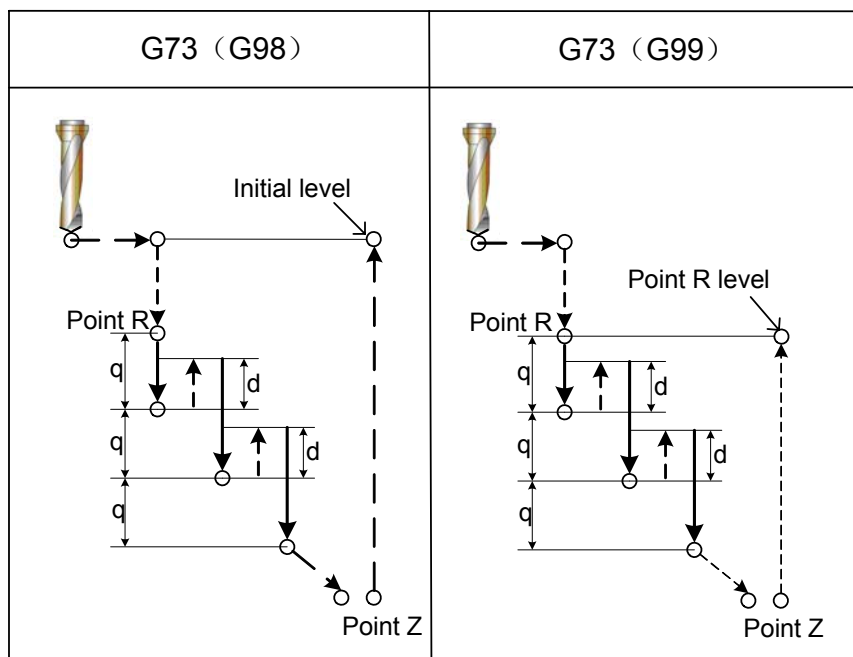

Fig. 4-4-7-1
**Function:** The cycle is specially set for the high-speed peck drilling. It performs intermittent cutting feed to the bottom of a hole while removing chips from the hole. The operation illustration is shown as Fig. 4-4-7-1.